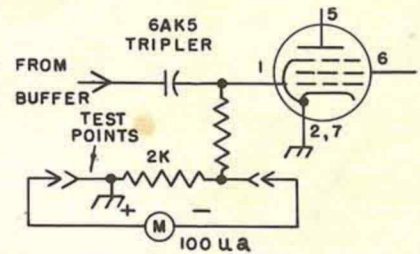

FIG. 5. TEST POINTS in the first multiplier.
**FIG. 5. CARRIER GENERATOR** schematic diagram, showing the transatron crystal oscillator at left, with buffer and frequency multiplier stages in line toward right. Note that provision is made for applying blocking negative bias through a VOX relay. Coil L1 is adjusted to tune with C1 to the frequency of the crystal being used (24 or 36 Mc.).